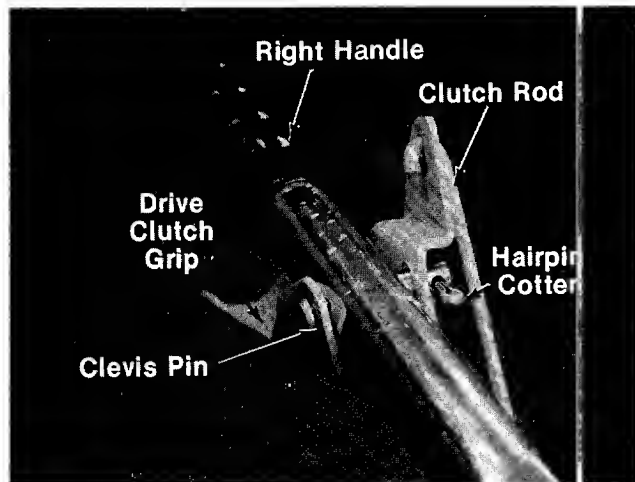
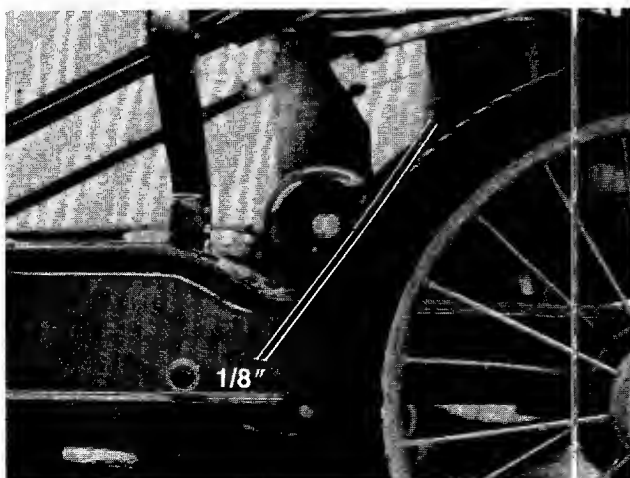

FIGURE 14.
FIGURE 15.
- With the drive clutch grip released as shown in figure 14, there should be a minimum clearance of 1/8" between the drive pinions and wheels. See figure 15. With the clutch engaged (clutch grip squeezed), the pinions should engage solidly into the tread of the wheels.